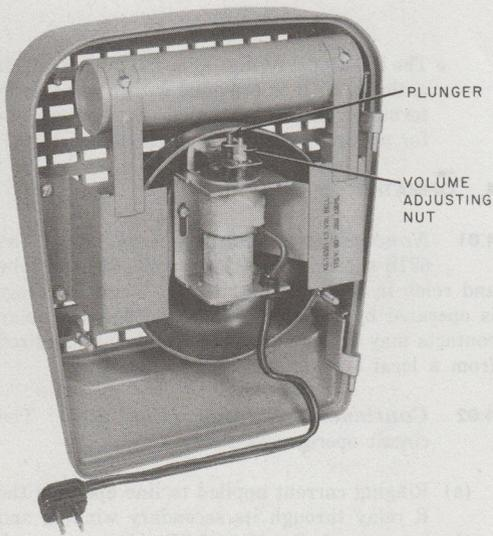

Fig. 13—KS-16301, List 3 Bell
3.09 Signals, KS-16301 (Fig. 13, 14, 15, 19, 20, 21, and 22):
5.01 The KS-16301L3 (vibrating bell) has a volume adjustment. On the Wheelock Signal Company type, the adjustment is a hexagonal nut on the rear of the signal (Fig. 13). The Sperti-Faraday Company type adjustment is on the back of the bell resonator. The direction of adjustment is stamped near the adjusting nut or screw. Table A shows operating currents.